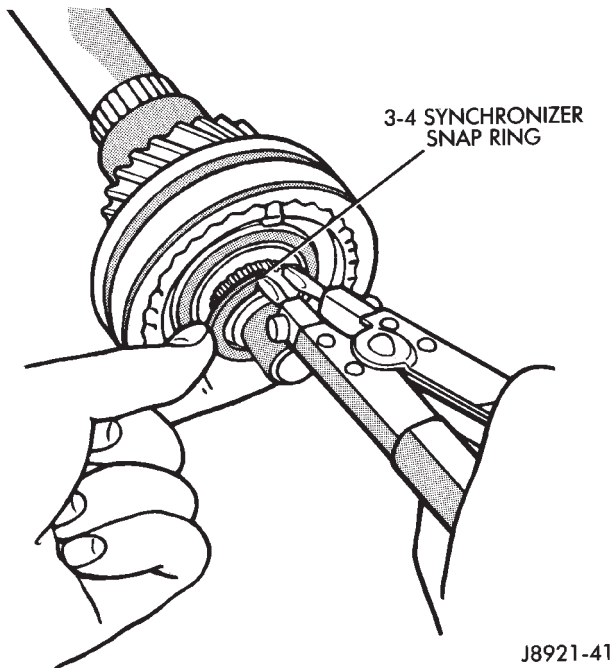

Fig. 106 Remove 3-4 Synchronizer Snap Ring
- (9) Remove second gear needle roller bearing from the output shaft or second gear.
- (10) Remove select fit snap-ring holding the 3-4 synchronizer onto the output shaft (Fig. 106).